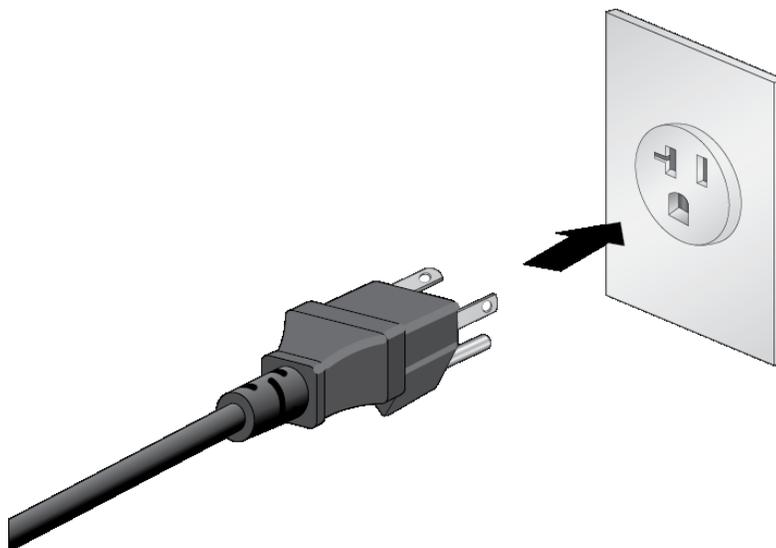

Figure 98. Connecting the Power Cord to an AC Power Source
3. Connect the power cord to an appropriate AC power source. Refer to Figure 98 on page 156.